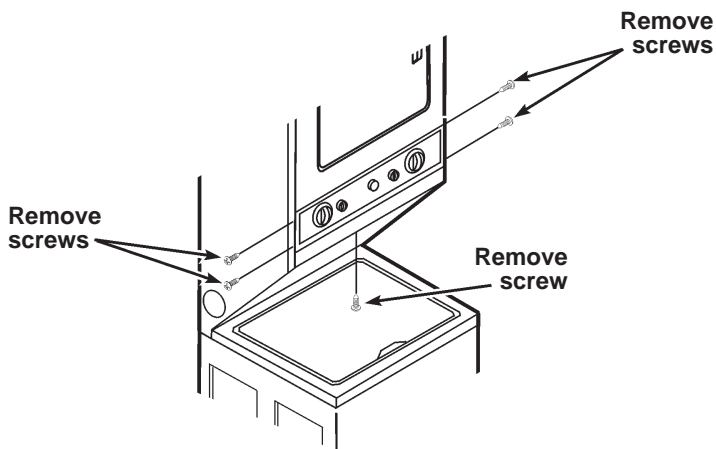

Figure 6
1. Remove two (2) screws from each console end cap. Remove console end caps. See Figure 6.
3. Remove screw from the bottom of the control panel. Remove the control panel. See Figure 6.